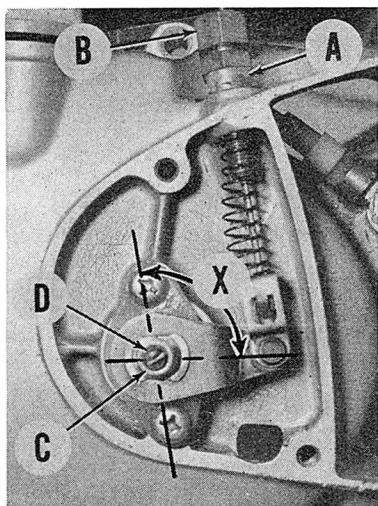

Fig. K5-6—Turn cable adjuster (B) to obtain 90-100 degree angle (X). Refer to text for adjustment of screw (D).
**CLUTCH CONTROLS.** Turn clutch cable adjusters at both ends to obtain maximum slack. Remove carburetor cover and loosen lock nut (C—Fig. K5-6). Turn cable adjuster (B) until